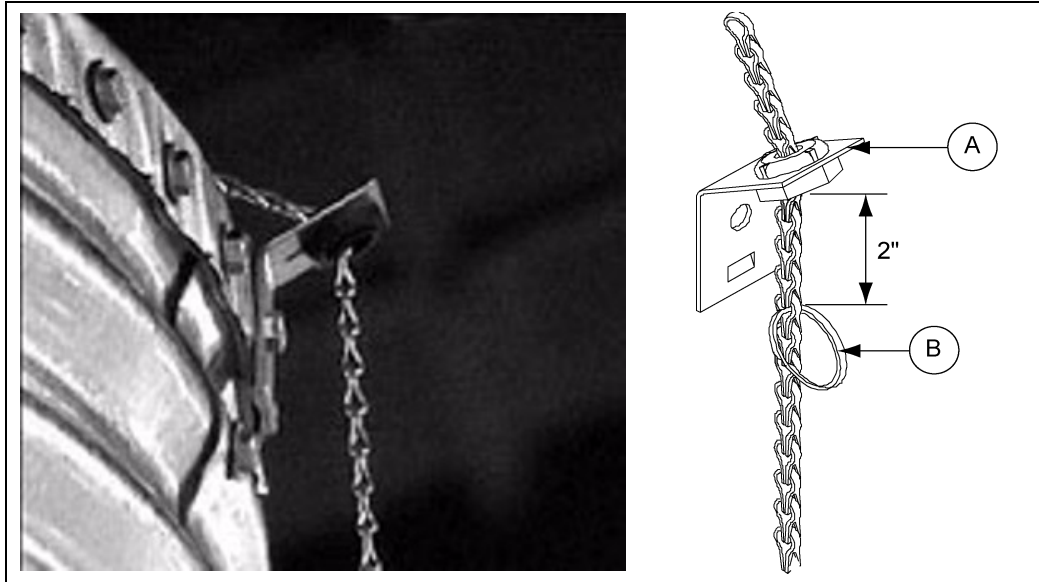
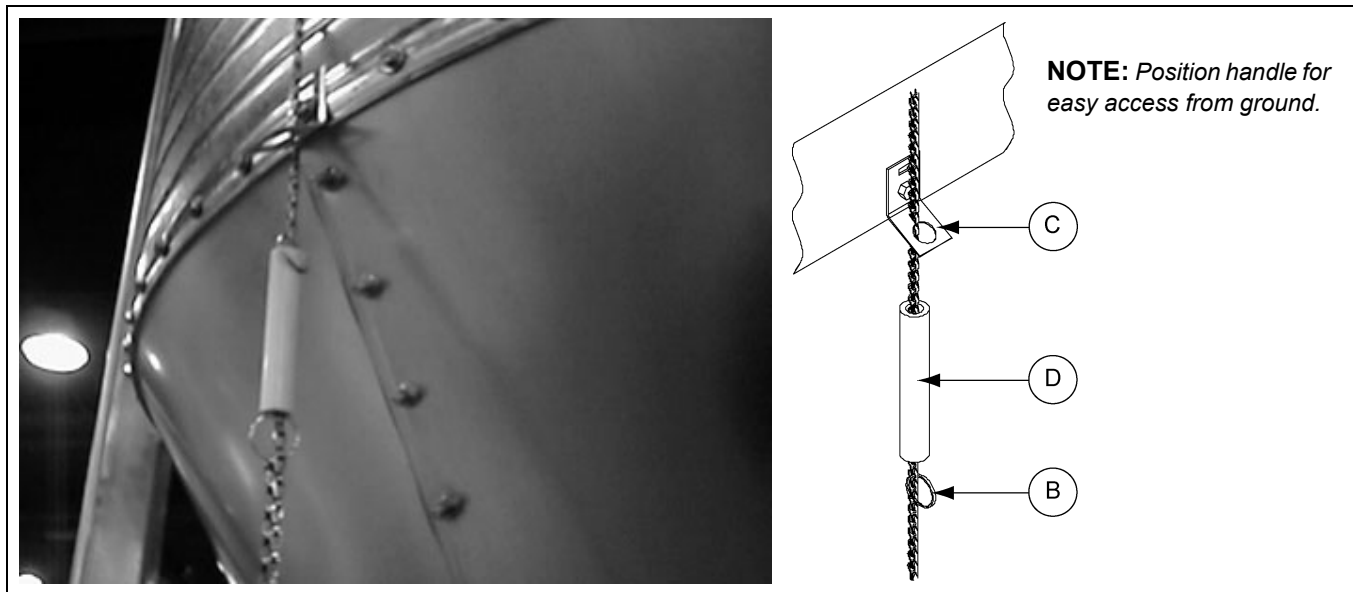

Figure 10I
Figure 10J
- Thread the existing chain through the hole on the end of the lever arm and fasten it to the provided key ring. (See Figure 10B on Page 45.) Ensure that the ground control chain is freely looped through the roof eave bracket and chain holder. After removing the slack in the chain while the lid is fully closed and in latched position, re-position the key ring 2" below the roof eave bracket. (See Figure 10I.) Re-adjust the existing handle and key ring so the handle is positioned for easy access from ground. (See Figure 10J.) Check to make sure that the key rings allow the cap to fully close, but will not allow the chain enough slack on top of the cap to become wrapped around the lever arm in a high wind condition.